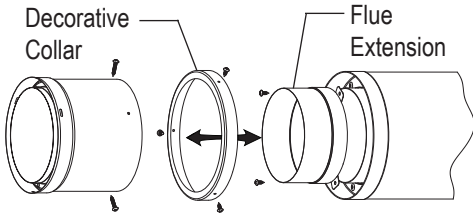

Figure 5
3. Attaching DVL to DT Canada and DT Premium (Decorative Collar Assembly) (Figure 5 and 6)